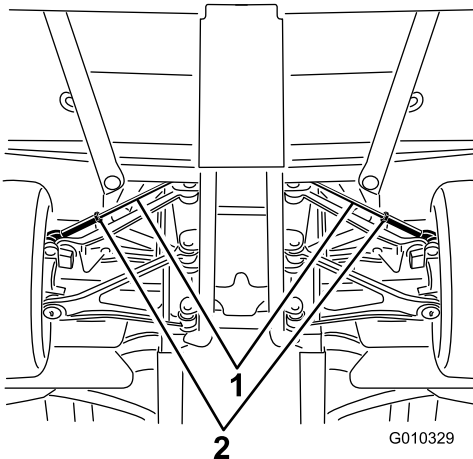

Figure 54
- A. Loosen the jam nut at the center of the tie rod (Figure 54).